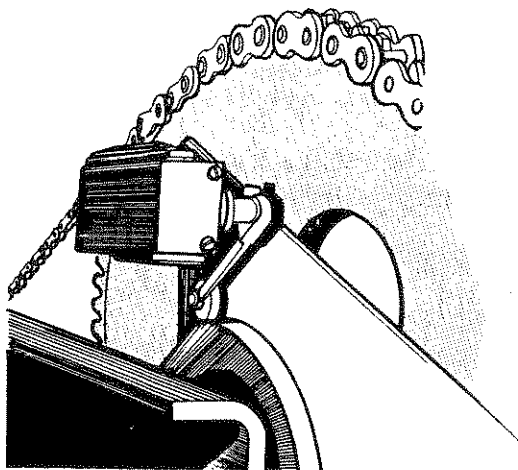

Fig. 44
6. Check stopping position of switch arm roller on cam. It should be on the high part of the cam, see Fig. 44.
10. Repeat steps 2 thru 5 and step 8 until the switch arm roller is on the high part of the cam, see Fig. 44.